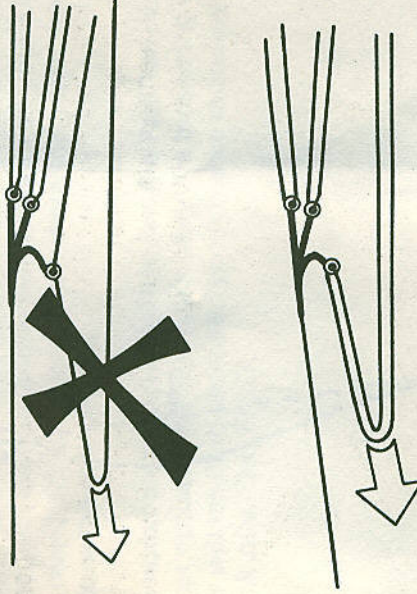

FIGURE 2. CONTROL LINE STOWAGE
Step 4: With the canopy pleated, but before the sleeve or bag is pulled over it, make sure that the control lines are free and in the middle, between the left and right riser groups. Fold the excess control lines like it is shown in Fig. 2.